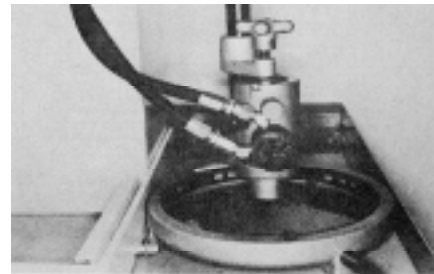

Fig. 6-1-36, F60207. PT (type D) Injector in ST668
6. Insert PT (type D) Injector in Service Tool 3375086 or ST-1058 Adapter. Fig. 6-1-36, Note: ST-10585 and ST-1058-6 spacers are not required with ST-668, for PT (type D) injectors.